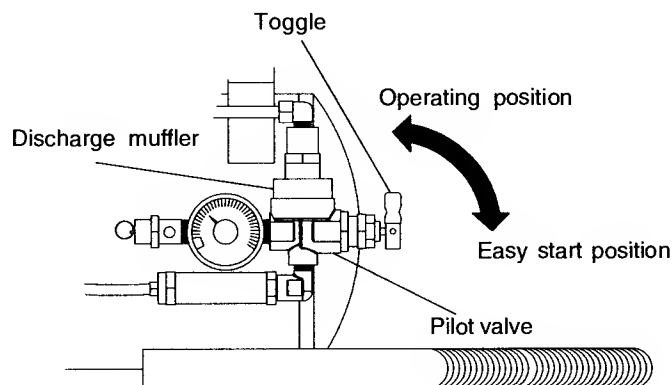

Fig. 4
- B) When the toggle is in the upright position, all air from the compressor is vented through the discharge muffler (Fig. 4). This gives an easy start feature. For normal operation, the toggle is in the 90° position.